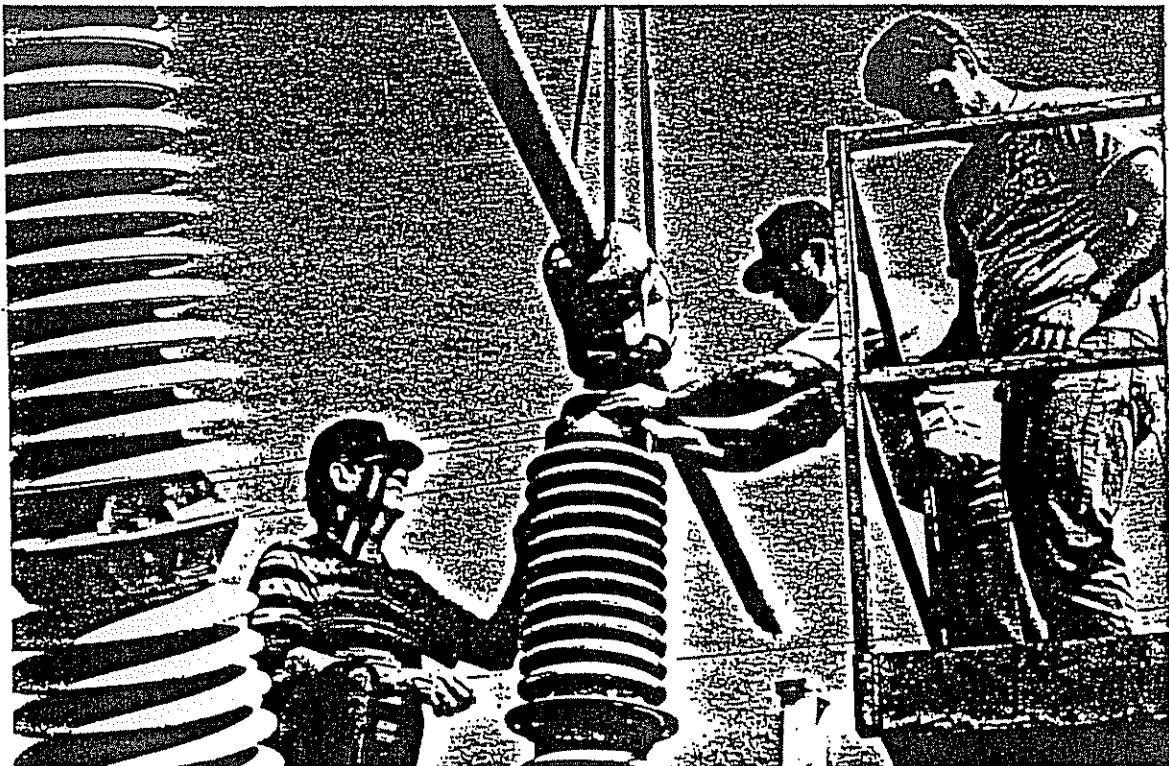

Figure 5
6. Mount the blade assembly as shown in figure 5. The blade assembly must be oriented on the center stack so as to allow an additional 45° of stack rotation after the blade tips enter the jaws. This is essential, as it provides blade rotation into the contacts, which establishes high contact pressure.